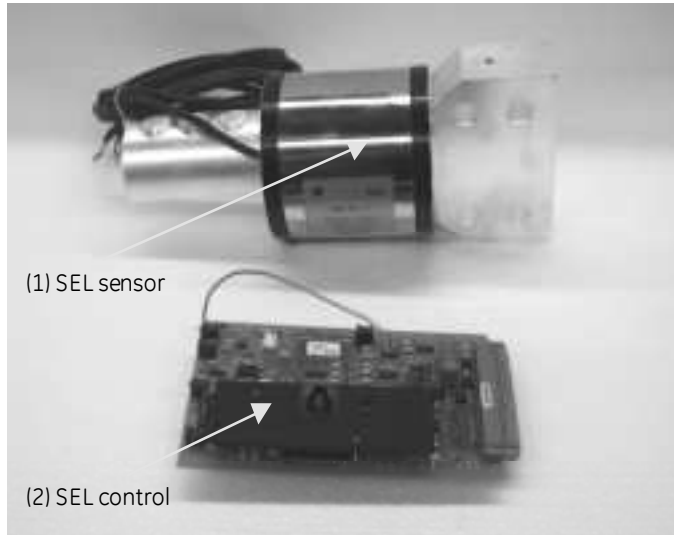
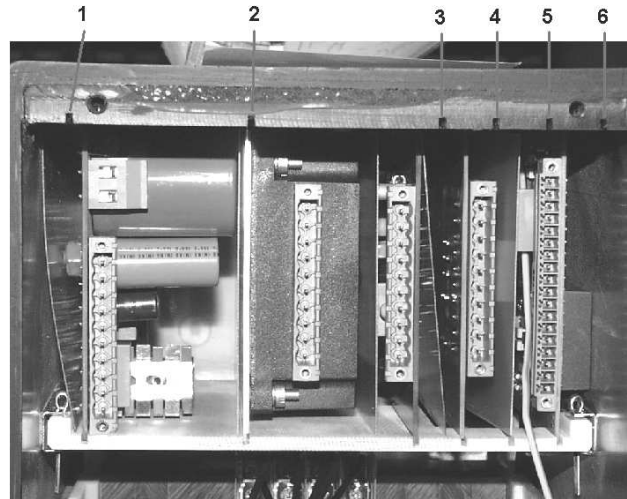

Fig. 17 SEL current measurement system
Fig. 18 Control box with control units
- The SEL current measurement system consists of the sensing component (1) and signal-processing unit (2) [Fig.17]. SEL sensor is integrated into a specially shaped upper terminal of the breaker and is connected by a shielded cable to the signal-processing unit. SEL control unit is placed in the control-box [Fig. 18].
All the control PCBs are installed in control box [Fig. 18]. Starting from the left, these are: